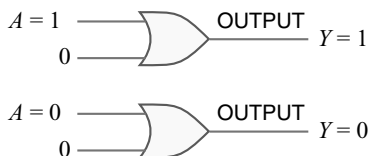

Fig. 24.37
**Theorem 1.** ( $A + 0 = A$ ). This theorem can be verified by ORing a variable  $A$  with a 0 and is illustrated in Fig. 24.37. Here one input to OR gate is always 0 and the other input  $A$  can be a value 1 or 0. When  $A$  is at 1, the output is 1 which is equal to  $A$ . When  $A$  is at 0, the output is 0 which is also equal to  $A$  ( $= 0$ ). Therefore, a variable ORed with 0 is equal to the value of the variable. This is easy to remember since 0 added to anything does not effect the value of the variable, either in regular addition or OR addition.